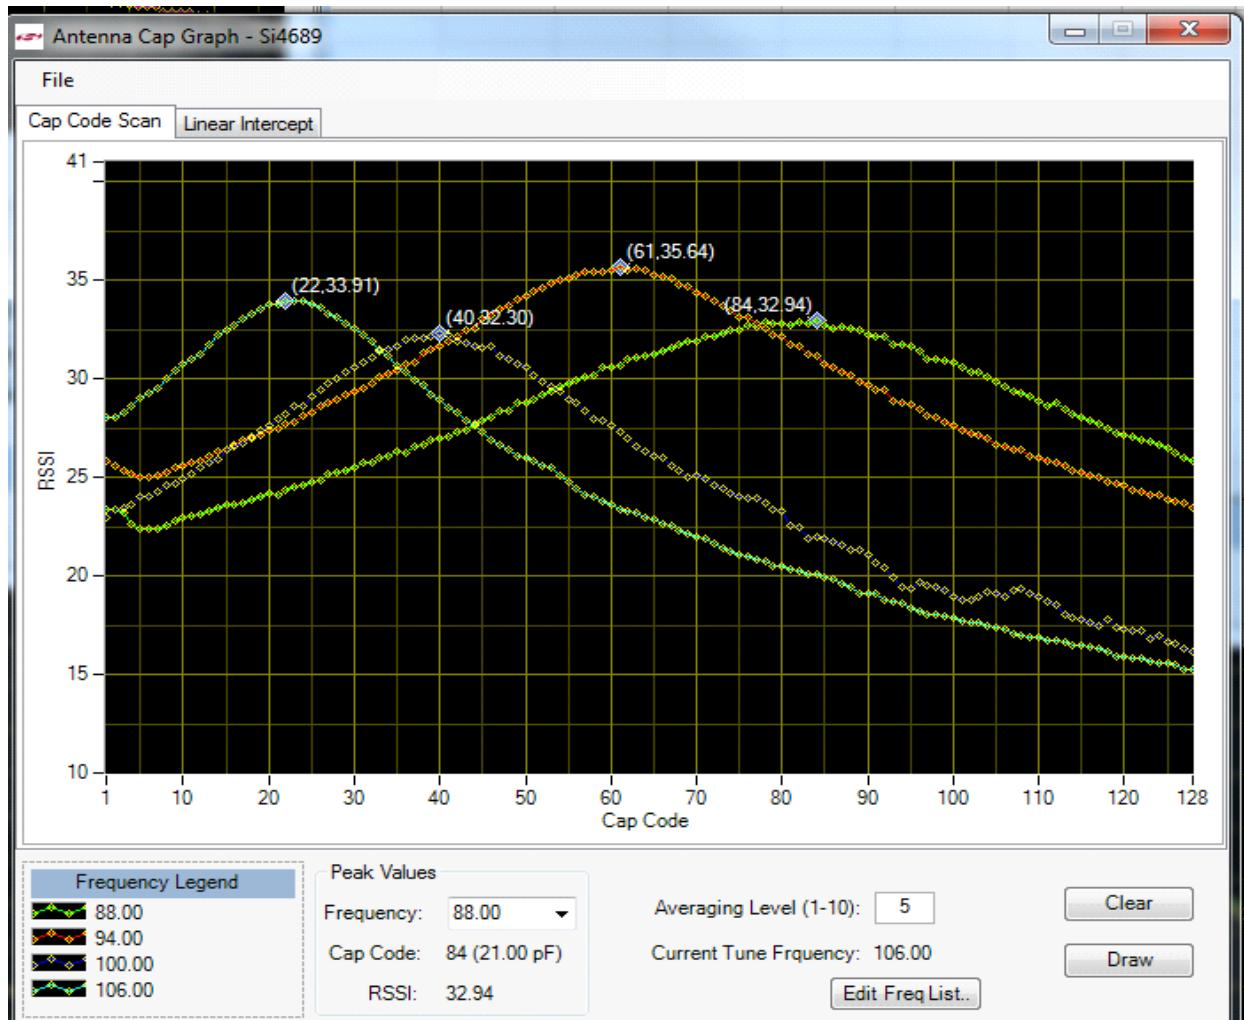

Figure 16. GUI Antenna Cap Graph for FM
Skyworks Solutions recommends using its EVB and the GUI to optimize the front end for a given antenna type and the cable length. The GUI has an antenna graph function, shown in Figure 16, which exercises the internal varactor capacitor across its range (1–128 counts) for finding the capacitance required to form resonance at a given frequency.
1. Initially use the Skyworks Solutions-recommended values for C1 (33pF) and L1 (56nH) shown in Figure 16.